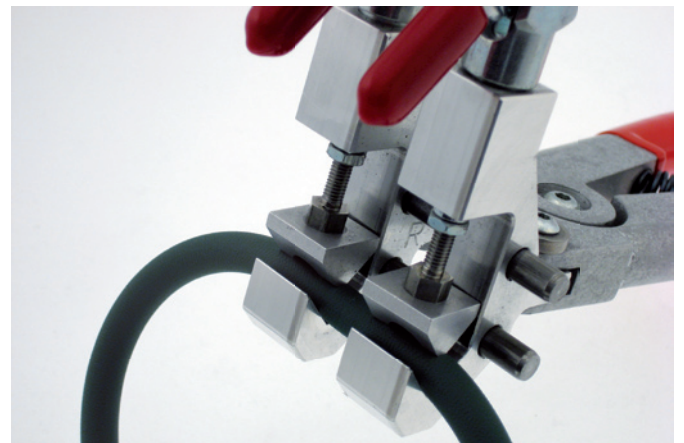

Fig. 9
- 9 When using the Bienefeld round belt jointing clamp with quick closures (Fig. 9), the two threaded bars are to be adjusted in such a way that the belt when inserted is firmly held. The positions are locked by tightening the nuts